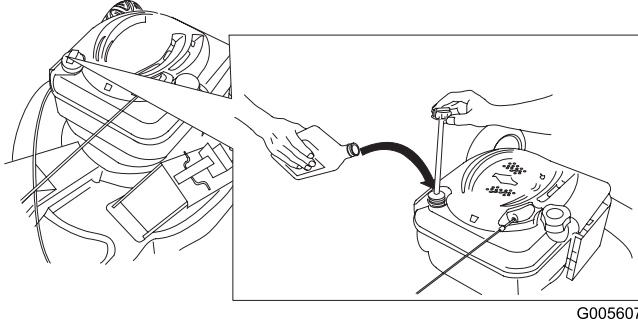

Figure 13
1. Remove the dipstick, wipe it clean, and fully install the dipstick (Figure 13).